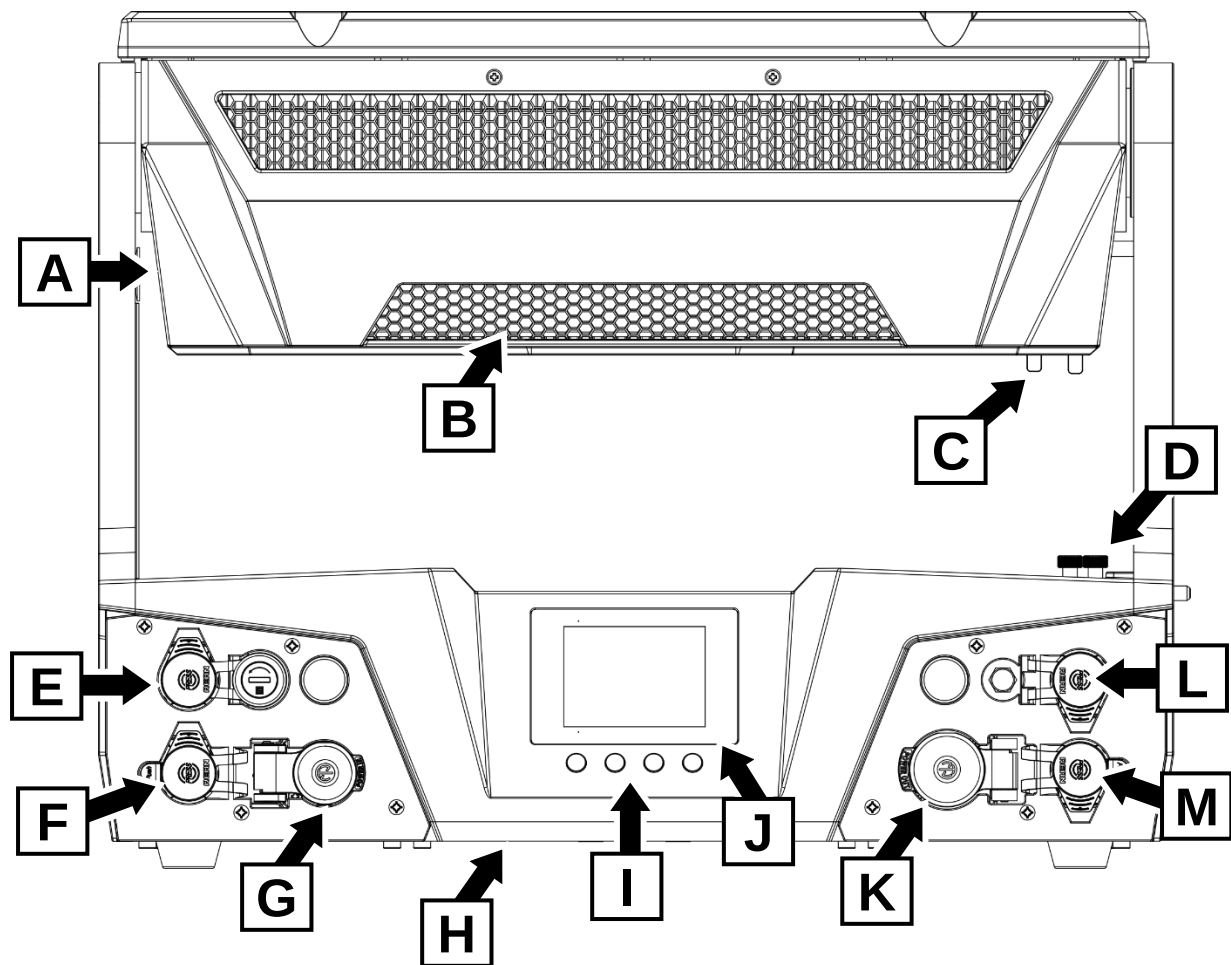

Figure 2. JDC2 IP overview
3. See Figure 2 on page 15. Open one of the retractable safety cable attachment eyelets on the base of the unit marked **H** in Figure 2 and fasten the safety cable to it.